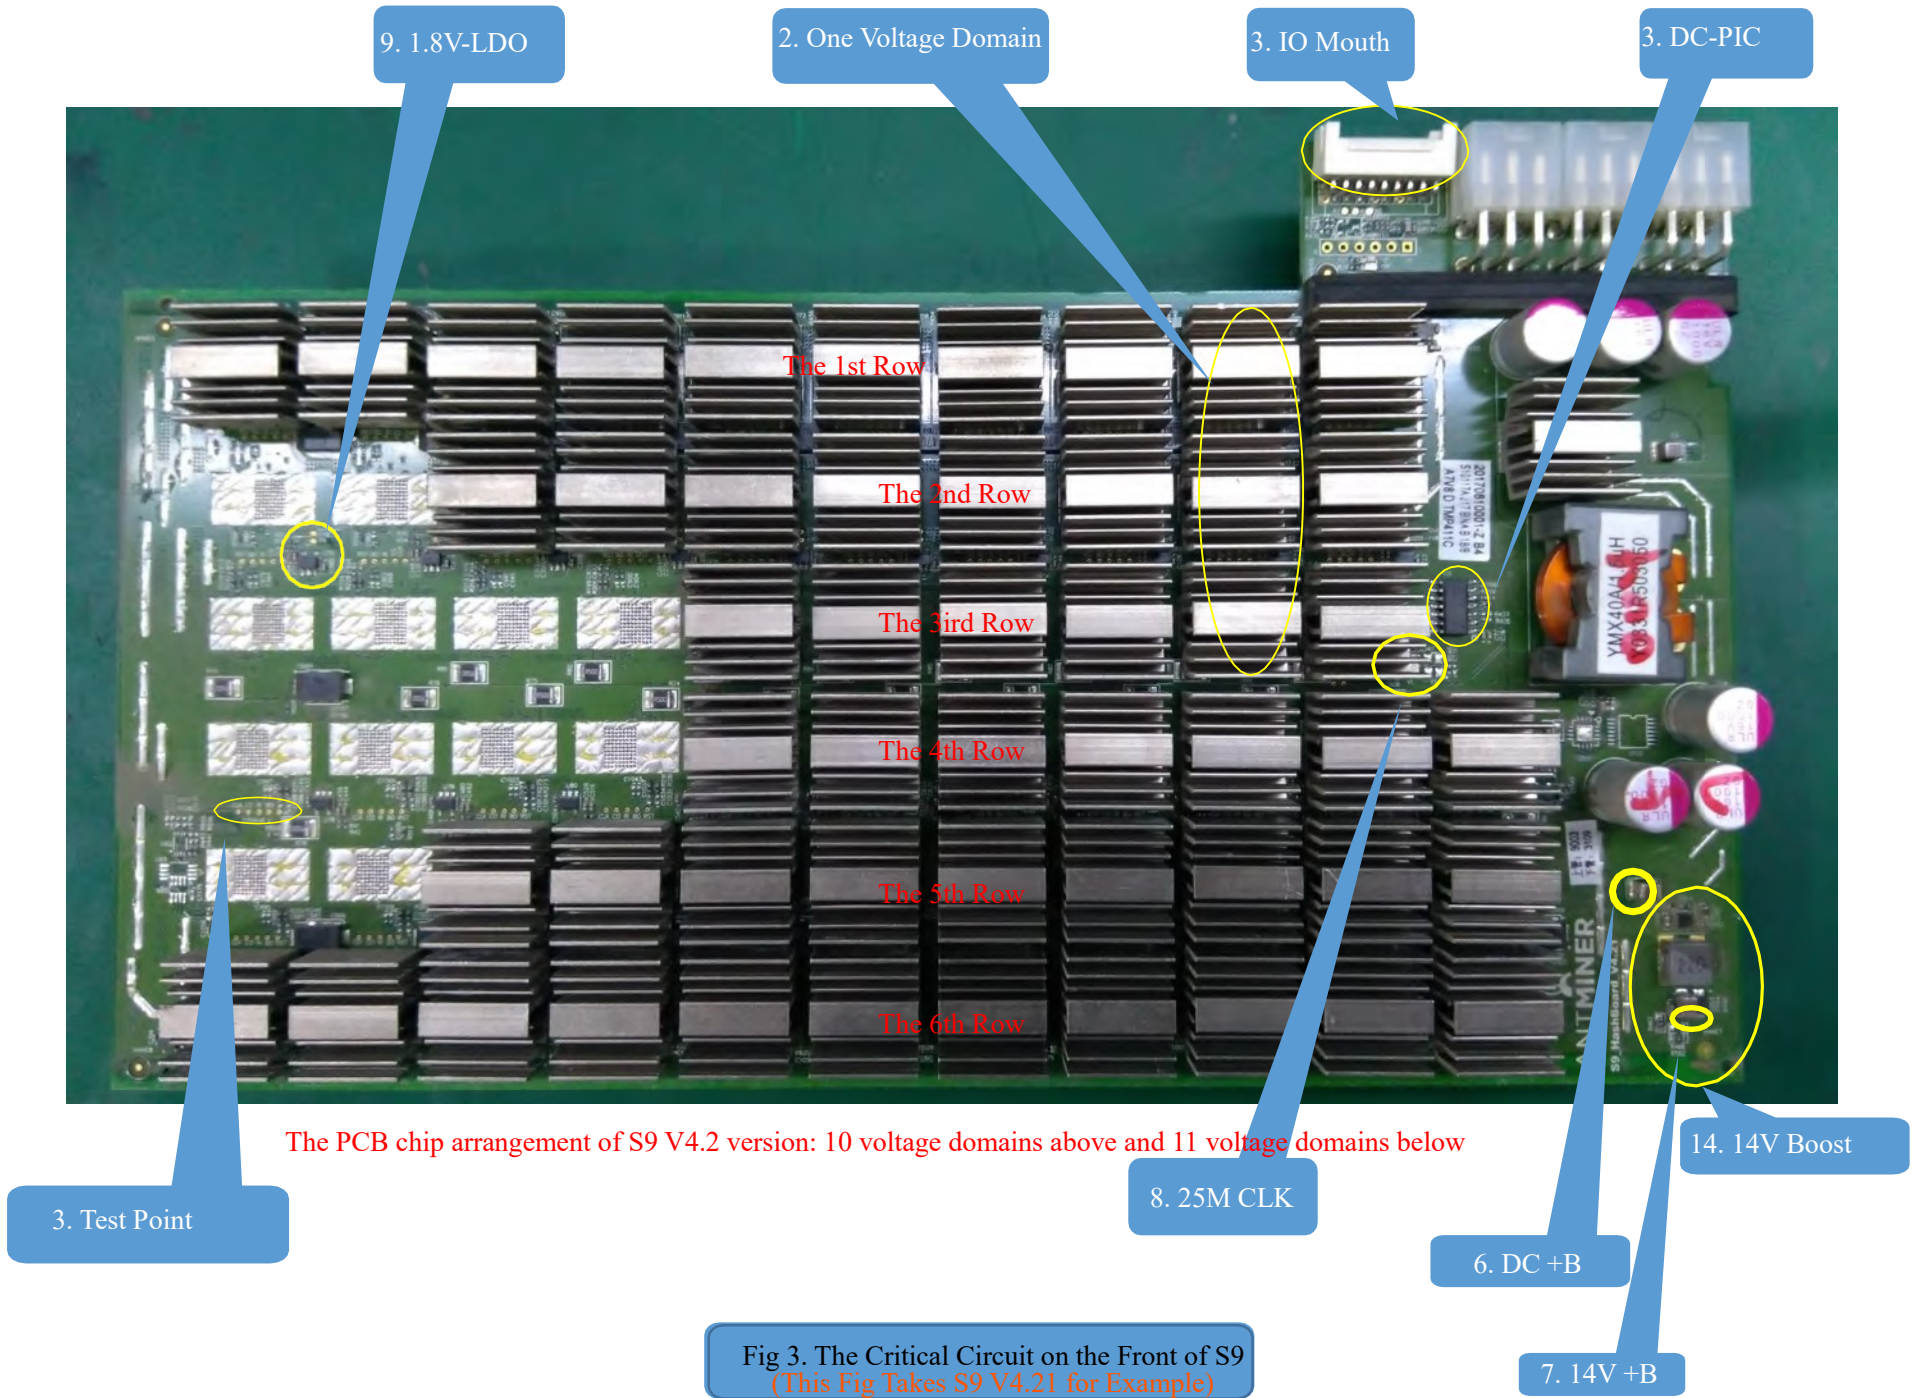

Fig 3. The Critical Circuit on the Front of S9 (This Fig Takes S9 V4.21 for Example)
2. Fig 3 shows the critical circuits on the front of S9 hashboard. (Fig 3 takes S9 V4.21 for example)